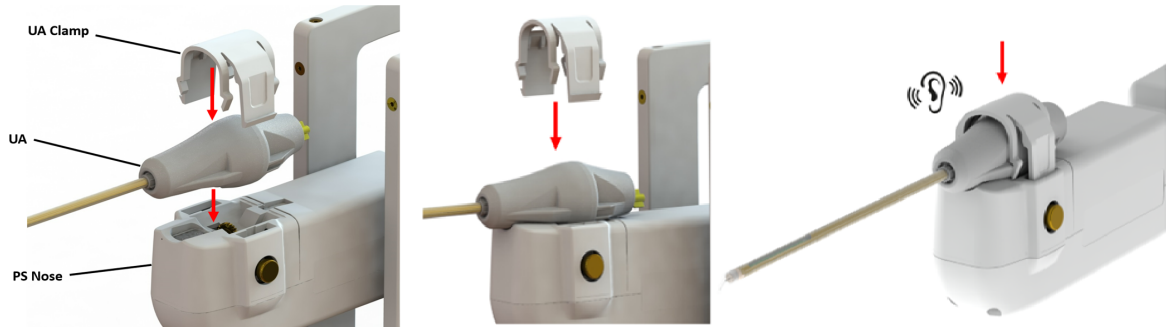

Figure 25: UA attachment to Positioning System
4. **MRI Technologist:** After locking the PS tilt and height, seat the UA in the PS nose and then secure it by pressing the UA clamp down over top of the UA until it is fully engaged with the PS nose. (*Figure 25*).